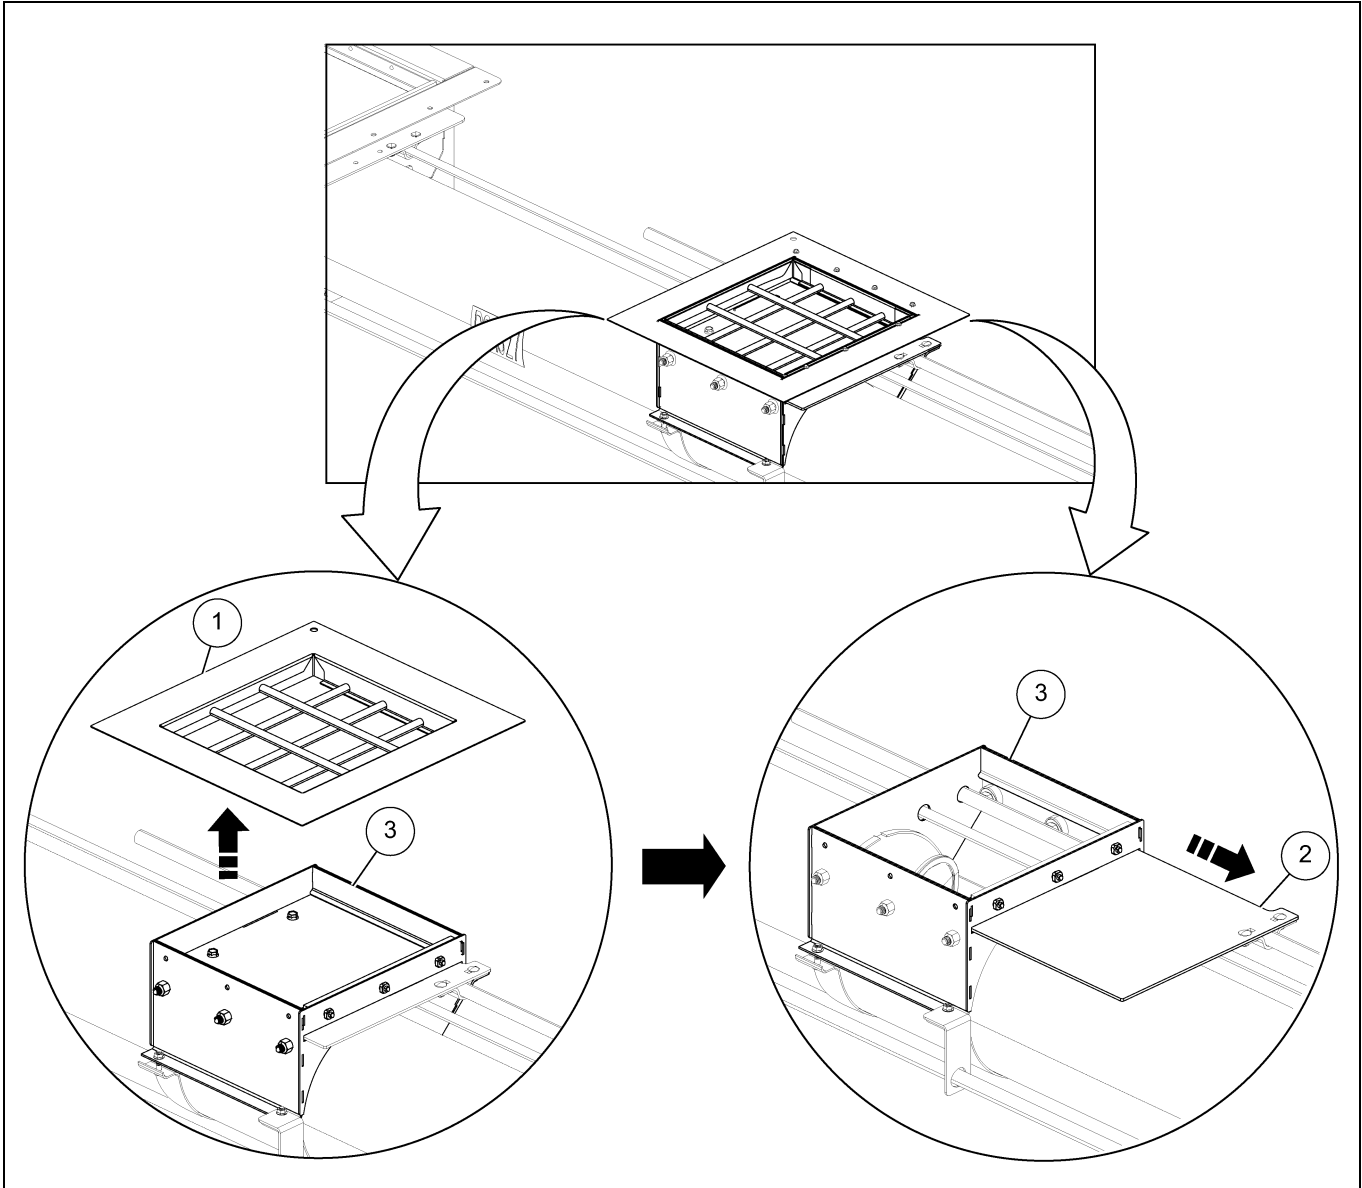

Figure 1 Removing the Intermediate Well Top Flange
1. Remove the intermediate well top flange (1) over the intermediate well (3) from the bin floor.
2. Slide and move the intermediate well gate (2) to the fully opened position. This allows you to install the bushings to the intermediate well (3). (See Figure 1.)